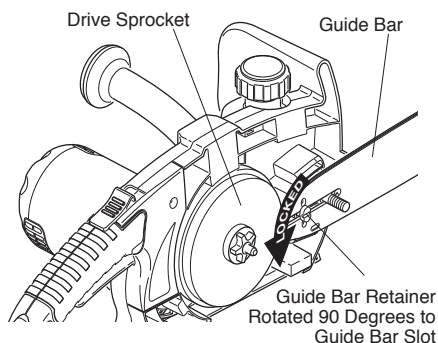

Figure 3 - Locking Guide Bar Retainer
5. Rotate guide bar retainer 90 degrees as shown in Figure 3.